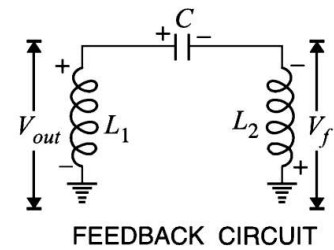

Fig. 14.14
**Circuit operation.** When the circuit is turned on, the capacitor is charged. When this capacitor is fully charged, it discharges through coils  $L_1$  and  $L_2$  setting up oscillations of frequency determined by \*exp. (i). The output voltage of the amplifier appears across  $L_1$  and feedback voltage across  $L_2$ . The voltage across  $L_2$  is  $180^\circ$  out of phase with the voltage developed across  $L_1$  ( $V_{out}$ ) as shown in Fig. 14.14. It is easy to see that voltage feedback (*i.e.*, voltage across  $L_2$ ) to the transistor provides positive feedback. A phase shift of  $180^\circ$  is produced by the transistor and a further phase shift of  $180^\circ$  is produced by  $L_1 - L_2$  voltage divider. In this way, feedback is properly phased to produce continuous undamped oscillations.
\* Referring to Fig. 14.14, it is clear that  $L_1$  and  $L_2$  are in series. Therefore, total inductance  $L_T$  is given by :  $L_T = L_1 + L_2 + 2M$
\*\* Referring to Fig. 14.14, the circulating current for the two inductors is the same. Further, inductive reactance is directly proportional to inductance.